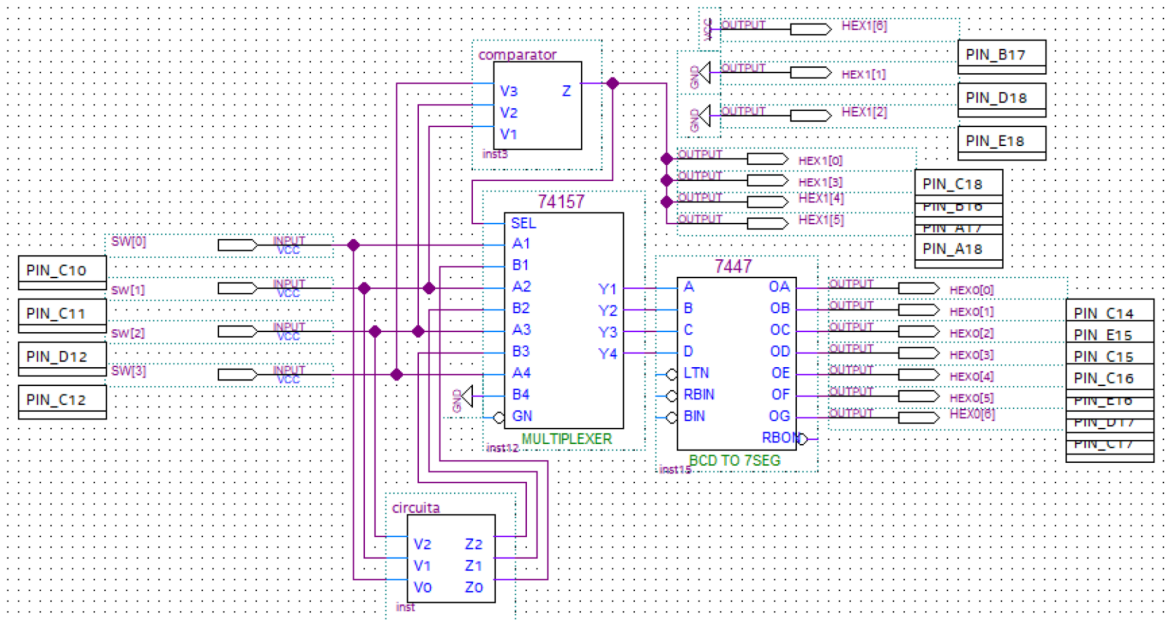

Figure 4: Binary to BCD Converter Circuit
- I then implemented the symbols in a larger top level circuit verifying my connections were identical to the provided circuit diagram. I used the recommended 74157 MUX and 7447 Decoder as seen in *Figure 4*.